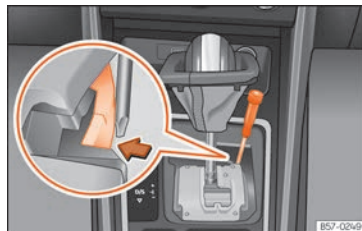

Fig. 165 Gear selector lever: manual release from the parking position.
- Using the flat part of a screwdriver, press the yellow tab sideways and keep it pressed down »» Fig. 165.